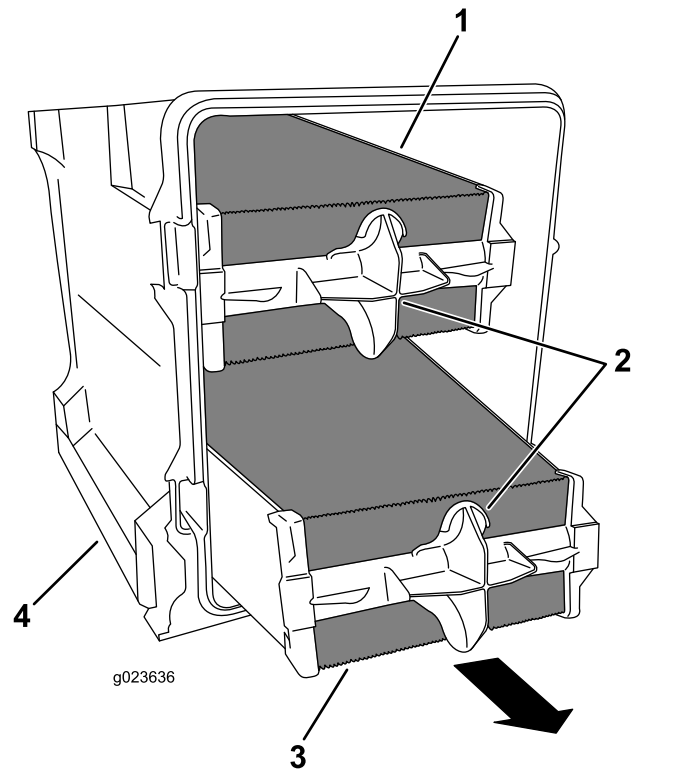

Figure 89
- Using the air-filter handles, remove the primary filter from the air-cleaner cover (Figure 89).